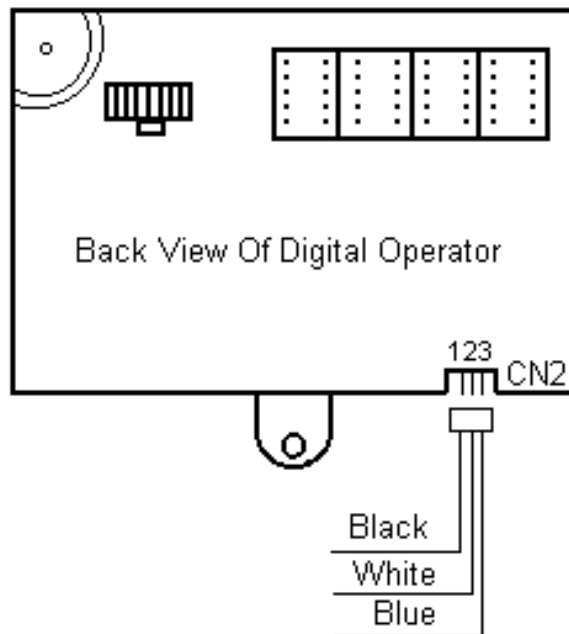

Figure 1: Keypad Auxiliary Analog Input
4. Locate the 2CN connector on the bottom of the back -side of the digital operator. Plug the Auxiliary Analog Input Connector into the 2CN connector as shown in Figure 1.